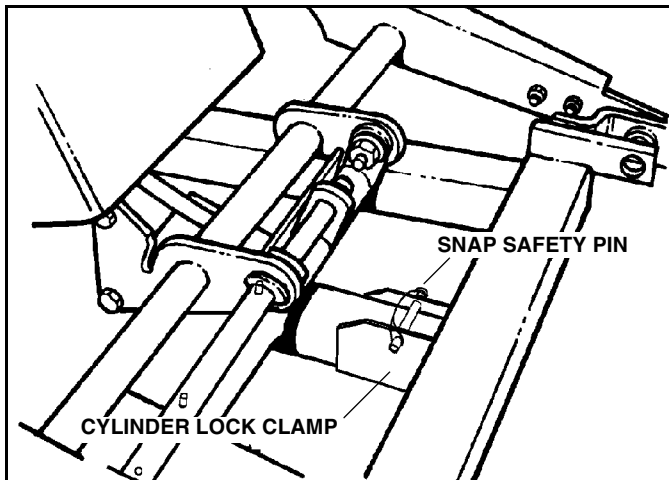

Figure 1-2
5. Position the cylinder lock clamp around the exposed (chrome) portion of the lift cylinder and install the pin. (See Figure 1-2)